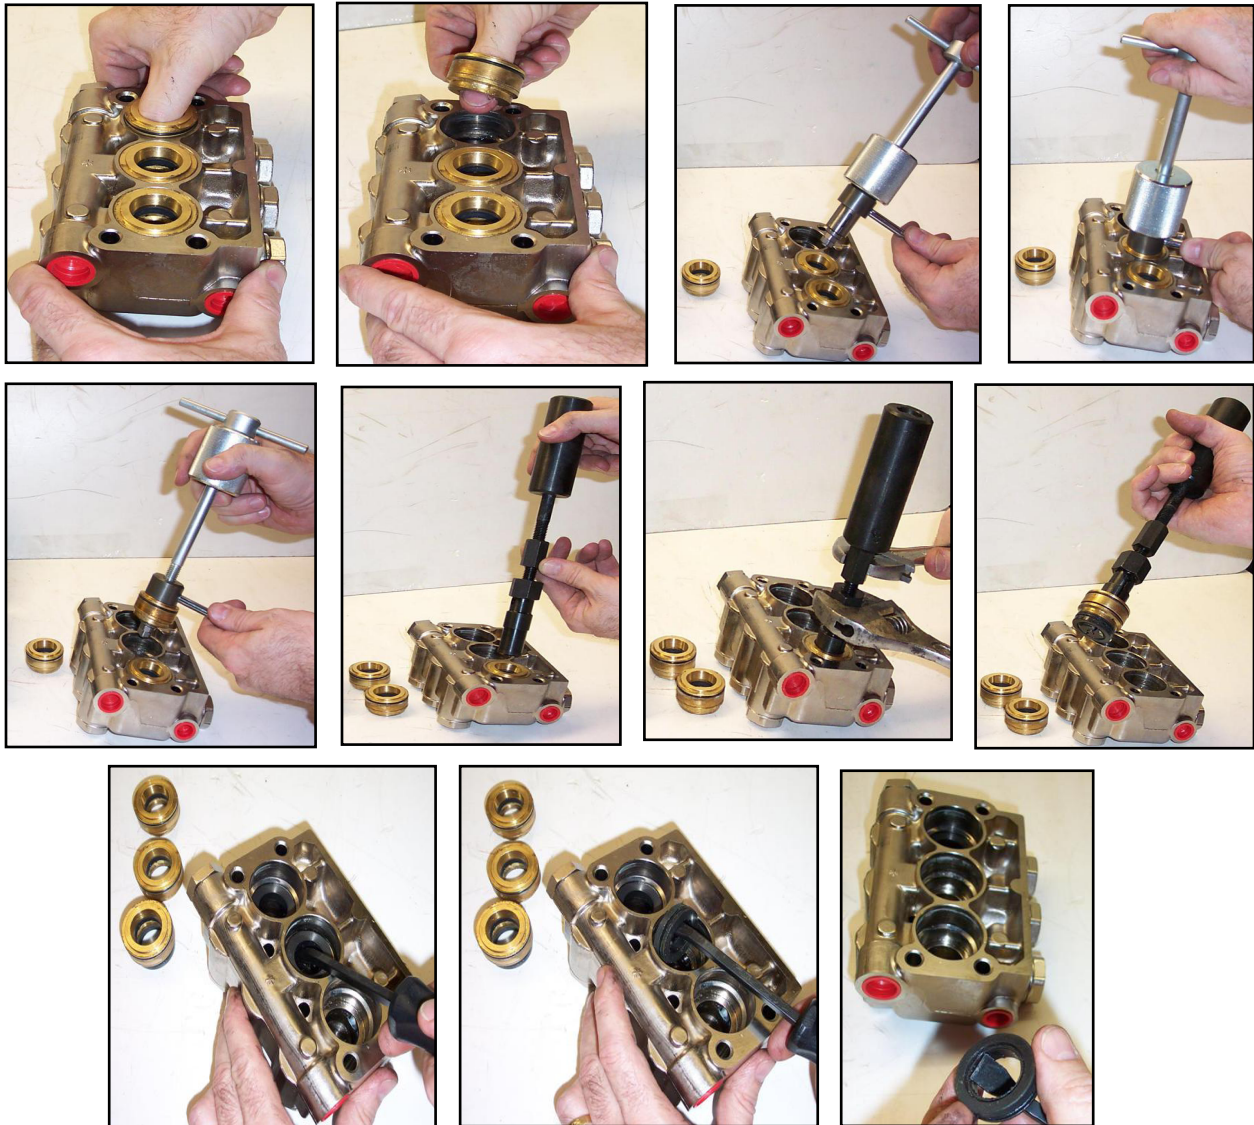

Figure 11. Extract Retainers and Seals
1. Insert proper extractor collet through main seal retainer (see Figure 11).